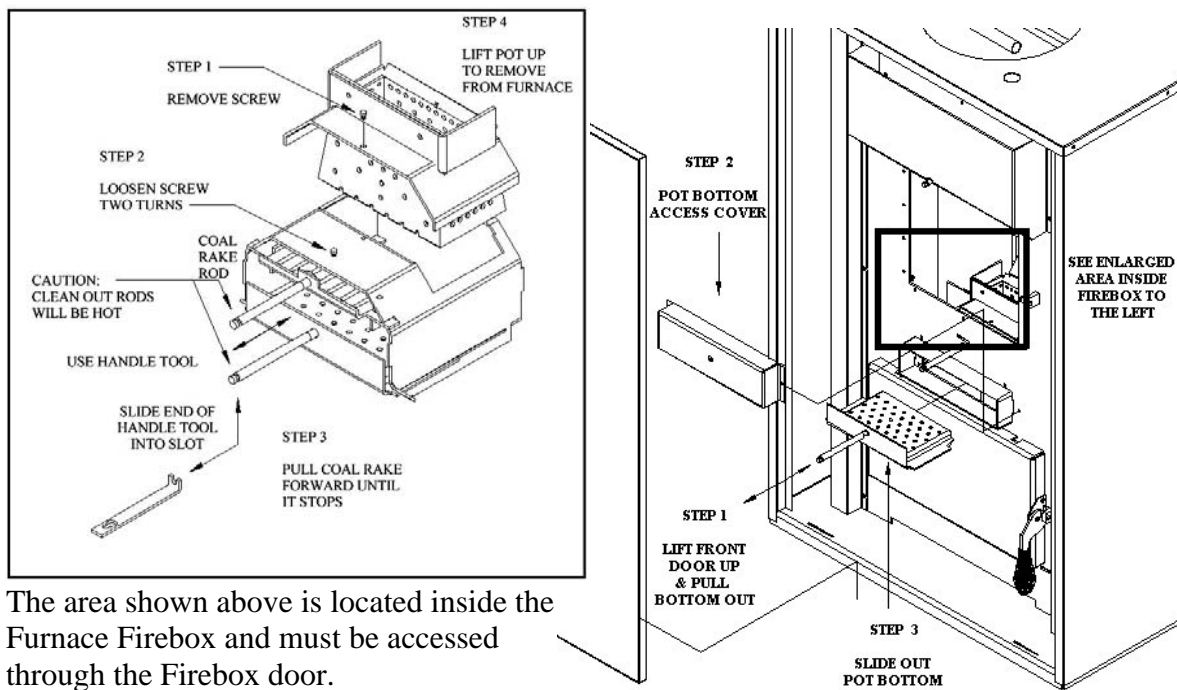

Figure 20
1. **The coal Rake.** The first step is to push the coal rake in and shave the coals off the top of the clinker. Once this is done open the door and add a ¼ cup of pellets on top of the coals (*See figure 18*). To push in the Coal rake, use the Rod Handle tool shown in figure 20 on page 39.
3. **The slide out bottom.** (*See figure 19*) Now you are ready to drop the clinker from the burn pot. Pull the bottom out in one quick motion and let the clinker drop into the ash pan. Quickly push the bottom in again. To pull out the slide bottom use the Rod Handle tool shown in figure 20 on page 39.
6. Cleaning the Heat exchange tubes. Now you can pull the tube scraper back and forth a couple of times to keep the tubes clean. If the Tube Scraper feels sticky and difficult to move, check for the presence of creosote on the tubes. If creosote is present a damper adjustment may be needed or the Furnace has become plugged and needs a thorough cleaning. Call Dealer for assistance. To pull the tube scraper back and forth use the Rod Handle tool shown in Fig. 20 on page 39.
2. **Burnpot and Slide-Out Bottom.** Clean burn grate holes whenever needed. Remove the Burnpot and use a small metal object (Nail, Drill Bit, etc) to clean out plugged holes. (See Figure 20 below)